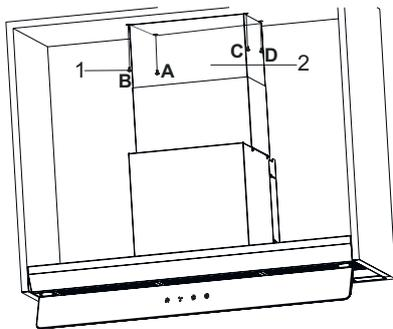

Fig. 21
- 7.** → Pull the interior flue up to the top section of the cabin (Fig. 21).
Using the 4 connection screws through the A, B, C, D points to the kitchen cabin (Fig. 21).